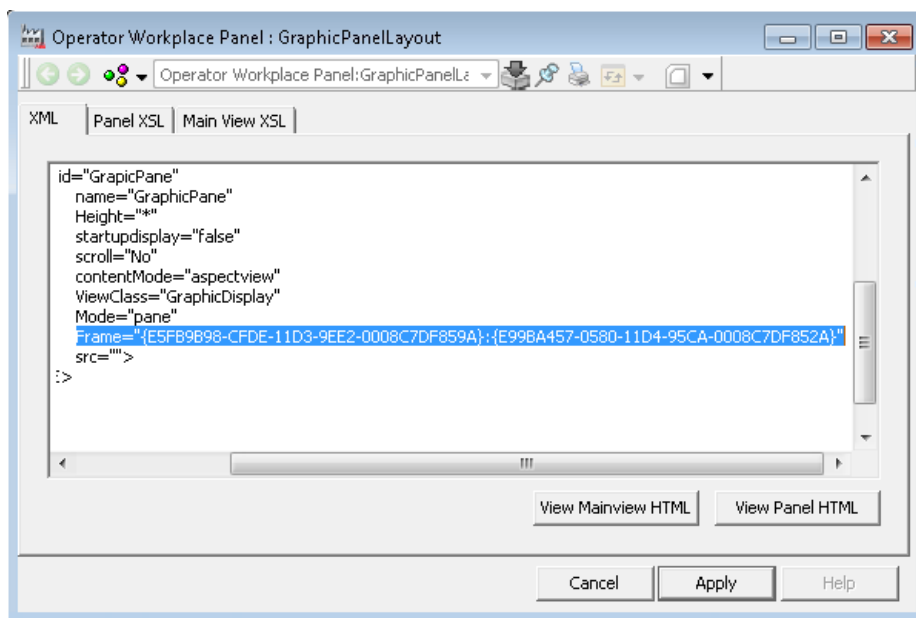

Figure 22. *GraphicPanelLayout* aspect
15. Add the *Frame* attribute to refer to the configured web frame object. See Figure 22.